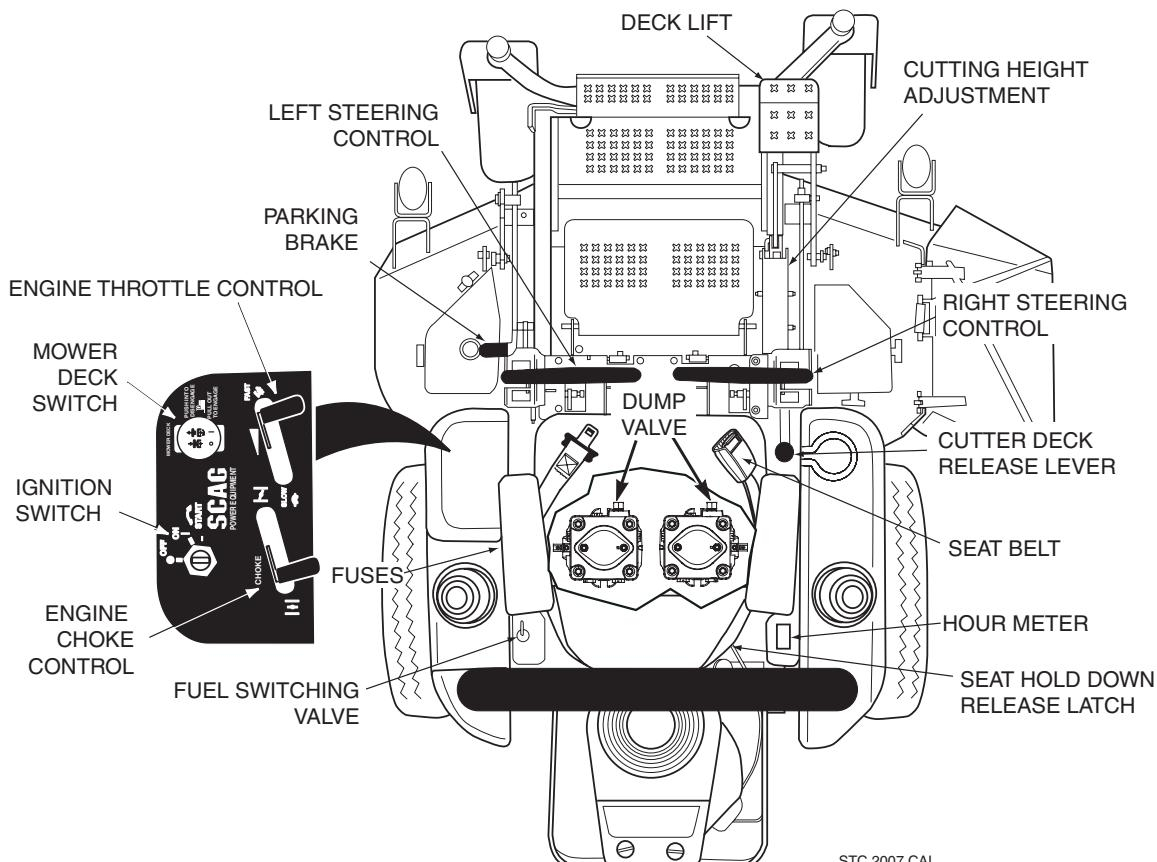

Figure 4-1. Controls and Instruments
1. **Ignition Switch (Figure 4-1).** The ignition switch is used to start the engine and has three positions; OFF, ON, and START.
2. **Mower Deck Switch (Figure 4-1).** Used to engage and disengage the mower drive system. Pulling up on the switch will engage the deck drive. Pushing down on the switch will disengage the deck drive.
3. **Engine Choke Control (Figure 4-1).** Used to start a cold engine.
4. **Engine Throttle Control (Figure 4-1).** Used to control the engine speed. Pushing the lever forward increases engine speed. Pulling the lever back decreases engine speed. Full back position is the IDLE position. Full forward is the cutting position.
5. **Hourmeter (Figure 4-1).** Indicates the number of hours the engine has been operated. It operates whenever the ignition key switch is in the ON position. Has preset maintenance reminders for engine and hydraulic system oil changes. Will start flashing scheduled maintenance 2 hours before preset time and continue flashing until 2 hours after. Automatically resets.
6. **Fuse Holders (Figure 4-1).** Two 20-amp fuses protect the mower's electrical system. To replace fuses, pull fuse out of the socket and install a new fuse.
7. **Left Steering Control (Figure 4-1).** Used to control the mower's left wheel when traveling forward or reverse.
8. **Right Steering Control (Figure 4-1).** Used to control the mower's right wheel when traveling forward or reverse.
9. **Parking Brake Control (Figure 4-1).** Used to engage and disengage the parking brakes. Pull the lever back to engage the parking brakes. Push the lever forward to disengage the parking brakes.
10. **Fuel Switching Valve (Figure 4-1).** Located on the left side of the machine. Used to shut off fuel supply to the engine and change fuel supply between the fuel tanks. Rotate the valve counter clockwise to supply fuel from the tank on the left side only. Rotate the valve clockwise to supply fuel from the tank on the right side only.
14. **Deck Release Lever (Figure 4-1).** Used to lock the cutter deck in the transport position. Push the foot pedal forward and pull back on the release lever to release the cutter deck for normal mowing.
15. **Seat Belt (Figure 4-1).** Used to secure the operator. Seat belt must be worn at all times when the ROPS is in the upright and locked position.
16. **Seat Hold Down Release Latch (Figure 4-1).** Located behind the seat. Used to secure the seat in the operator's position. Release the latch to gain access under the seat.
12. **Deck Lift Foot Lever (Figure 4-1).** Used to raise and lower the cutter deck. Push full forward to lock in the transport position.
13. **Cutting Height Adjustment (Figure 4-1).** Used to set the cutter deck at the desired cutting height.
Do not travel forward over a curb. The mower will hang up on the curb. Raise the deck and travel backwards over the curb at a 45 degree angle. (See Figure 4-1 items 12-14 for cutter deck raising description.)